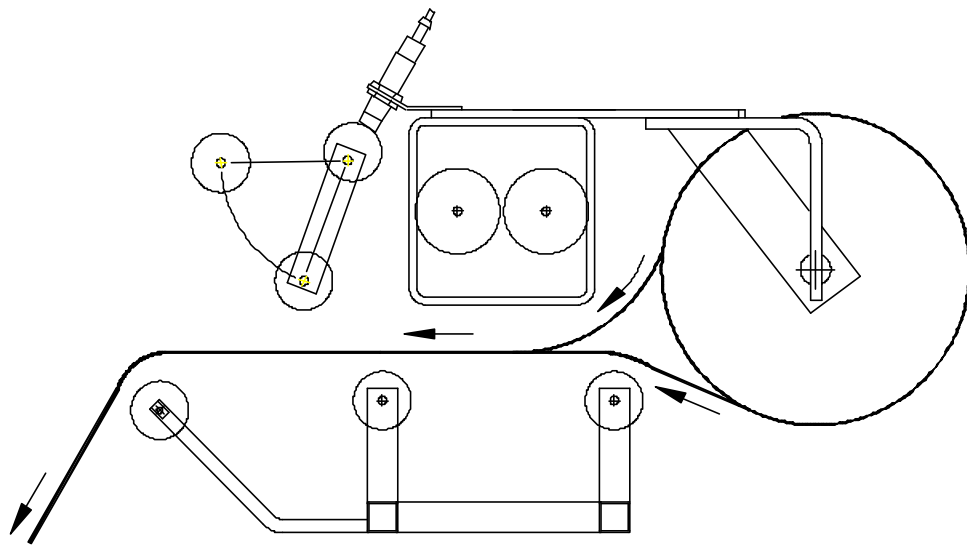

Fig. 1 OPEN CRADLE
6. Pass the roped tail of the film through opening (as shown on the film quick threading pattern DWG. # 418180 Fig.1).